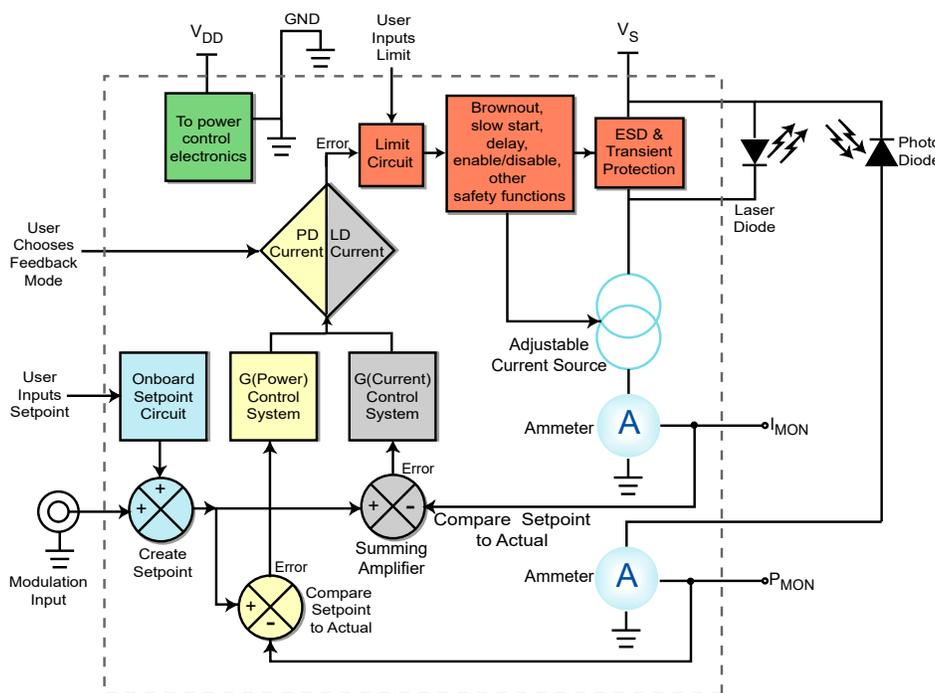

Figure 1. Laser Diode Driver Block Diagram
In a typical laser diode system, a driver (current source) is used to control the current from the power supply to the laser. **Figure 1** shows the basic layout of a laser driver system. The driver uses a feedback system from the laser or photodiode to correctly and accurately operate the laser. Application Note AN-LD13: Laser Diode Driver Basics goes into further detail about laser diode drivers. In the following sections, different aspects of the laser driver will be reviewed in detail for high performance operation.
Most laser diode drivers will allow control based on laser current or photodiode current feedback. These are labeled as Constant Current (CC) and Constant Power (CP), respectively. This will allow the driver to maintain the specified output as constant as possible. **Figure 1** shows the basic layout of both feedback systems (yellow and gray feedback modes).